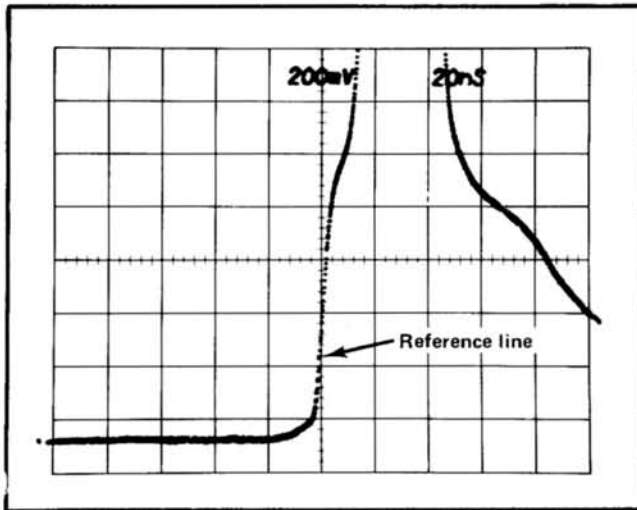

Fig. 5-4. TIME-DISTANCE Dial accuracy check. A  $1 \mu\text{s}$  period marker is shown.
c. Adjust the FINE control to place a marker on graticule line 5. See Fig. 5-4 for this waveform.